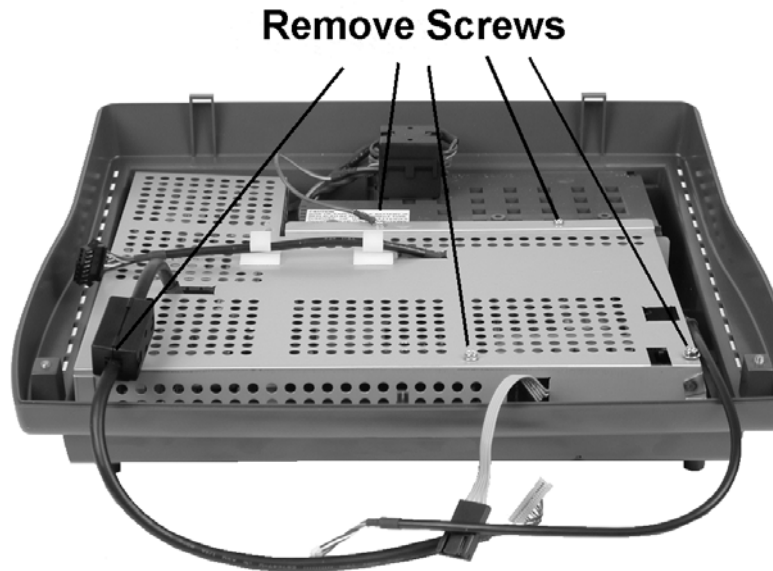

Figure 3-3: Removing the RF Shield Screws
8. Set the Top Cover aside and remove the RF shield. First, remove the five screws shown in Figure 3-3.